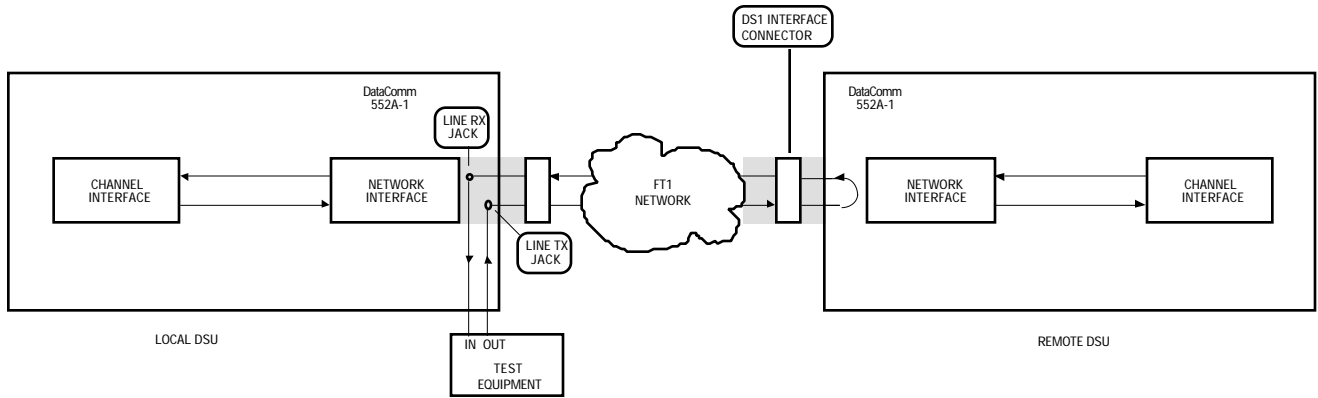
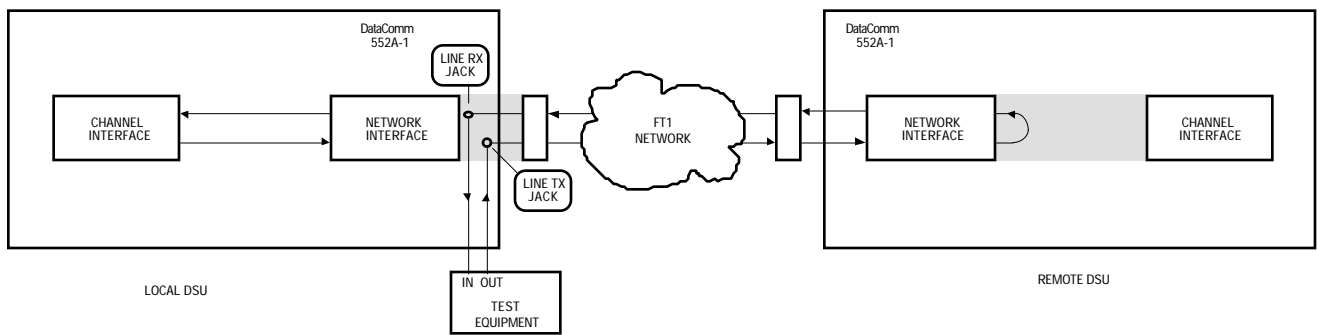

FIGURE 4-12. DS1 REMOTE TEST WITH LINE LOOPBACK
FIGURE 4-13. DS1 REMOTE TEST WITH TEST LOOPBACK
DS1 Remote Test (RT) activates the remote DSU's DS1 Line Loopback function (illustrated in Figure 4-12) or DS1 Test Loopback function (Figure 4-13), depending on which one is enabled in the remote DSU. This tests both DSUs and the T1 link by transmitting a locally-generated test message through the local DSU to the remote DSU and looping it back to the test equipment for verification. Bipolar violations are uncorrected during this test when the remote DSU has its LLB function enabled. Whether the local DSU transmits framed or unframed loopback codes depends on the selection of the loopback test code framing option.